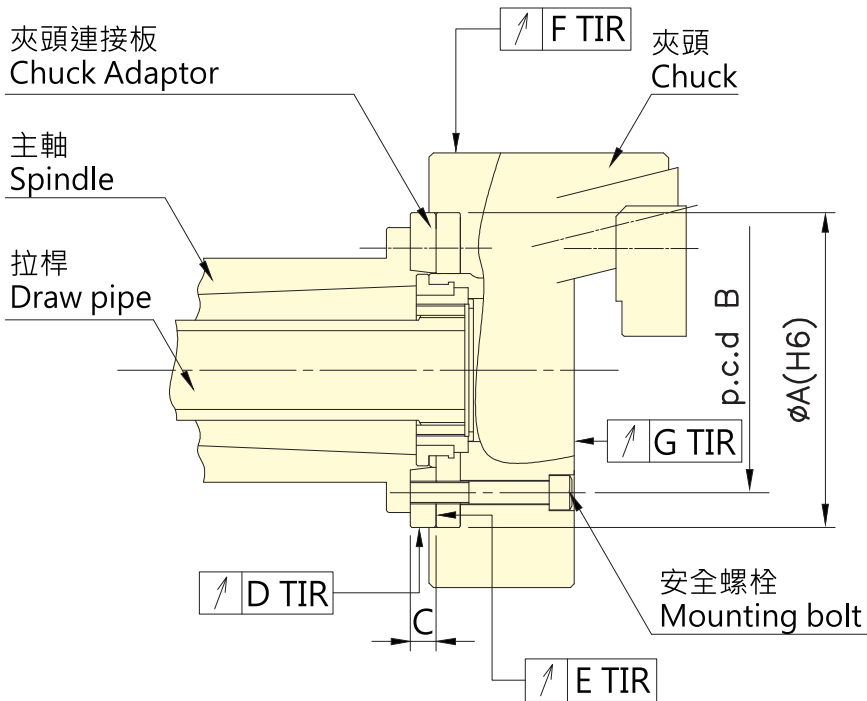

Fig.13
- Fig.13為JIS短錐度主軸圖。
- Fig.13 shows JIS short tapered spindle.